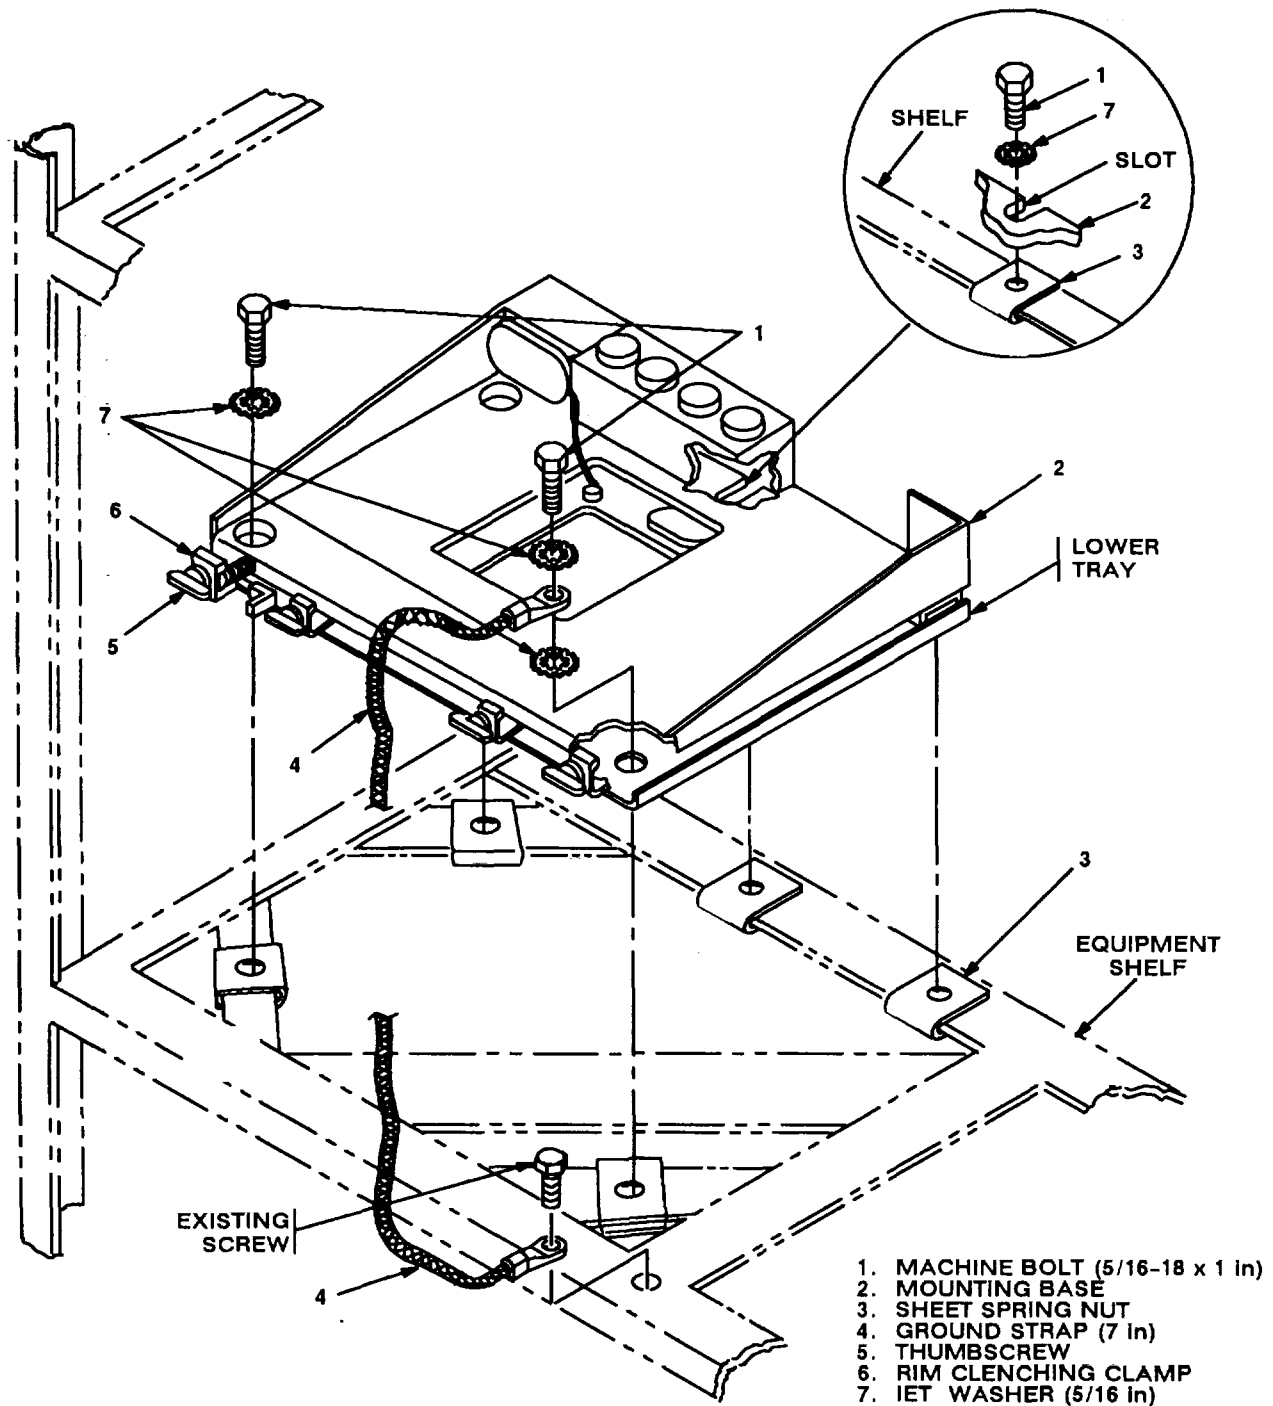

Figure 5-4. Mounting Base Installation: Equipment Rack
5.2 Installation of Mounting Base, Electrical Equipment MT-6352/VRC (mounting base). Remove and retain attaching bag of 5/16 in mounting hardware for installation. To ensure good electrical grounding, any rust, corrosion or paint around mounting holes in equipment shelf should be removed before installing mounting bases. See figure 5-4 and perform the following steps.
a. Five sheet spring nuts (3).	Slide over existing holes on left side of equipment shelf. See figure 5-4.
b. Mounting base (2).	Place on shelf over sheet spring nuts (3).
c. Two outer thumbscrews	Turn ccw until both sets of threads (5) have cleared center of holes.
d. Mounting base (2).	Aline four holes and rear slot with holes in sheet spring nuts (3).